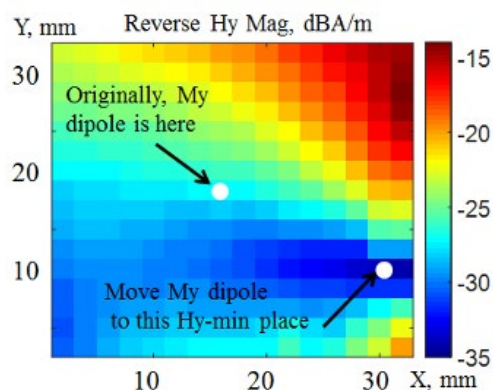

Fig. 4. Measured  $|H_y|$  field map of the circuit shown in Fig. 1.
In the example shown in Fig. 3, the noise source type is  $M_y$  (a magnetic dipole pointing in the  $y$ -direction) [4]; therefore, the transfer function associated with  $H_y$  (the magnetic field in the  $y$ -direction) must be determined. The measured  $|H_y|$  with respect to the embedded Wi-Fi antenna's excitation is shown in Fig. 4 [4]. The near-field scanner shown in Fig. 1 was used for the measurement. From (1), we know that